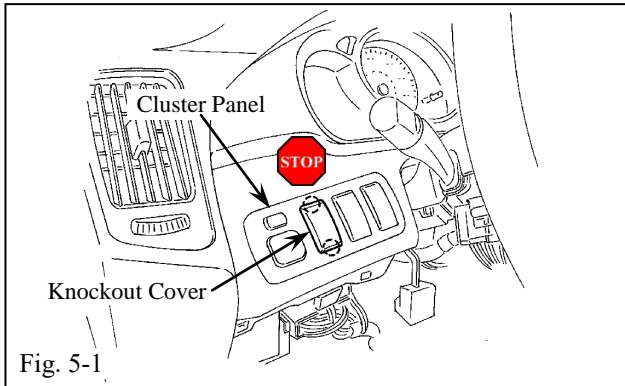
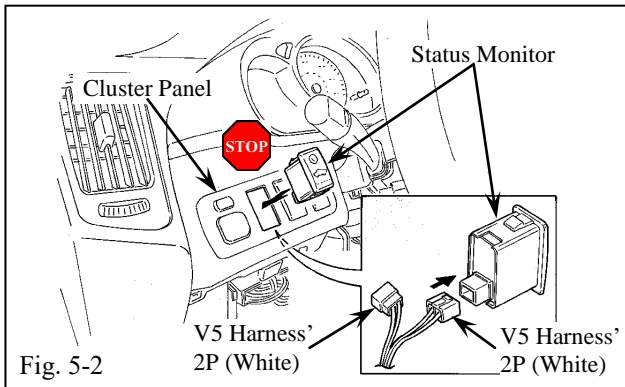
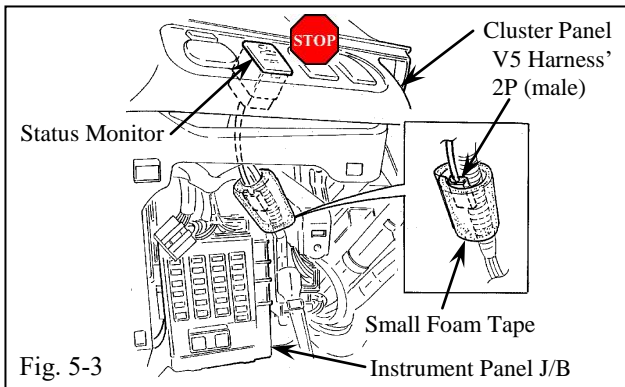

Fig. 5-1
Fig. 5-2
Fig. 5-3
- (a) Remove the knockout cover from the far left space of the cluster panel. (Fig. 5-1)
- (1) Do not perform this step if the vehicle has an immobilizer system.
- (b) Plug in the V5 harness' white 2P connector to the status monitor. (Fig. 5-2)
- (2) Verify the connectors are plugged in securely.
- (c) Insert the status monitor into the knockout opening of the cluster panel. (Fig. 5-2)
- (1) Do not use the V5 Harness' white 2P connector (male).
- (d) Do not use the V5 harness' white 2P connector (male); wrap it to the vehicle harness with one small strip of foam tape. (Fig. 5-3)